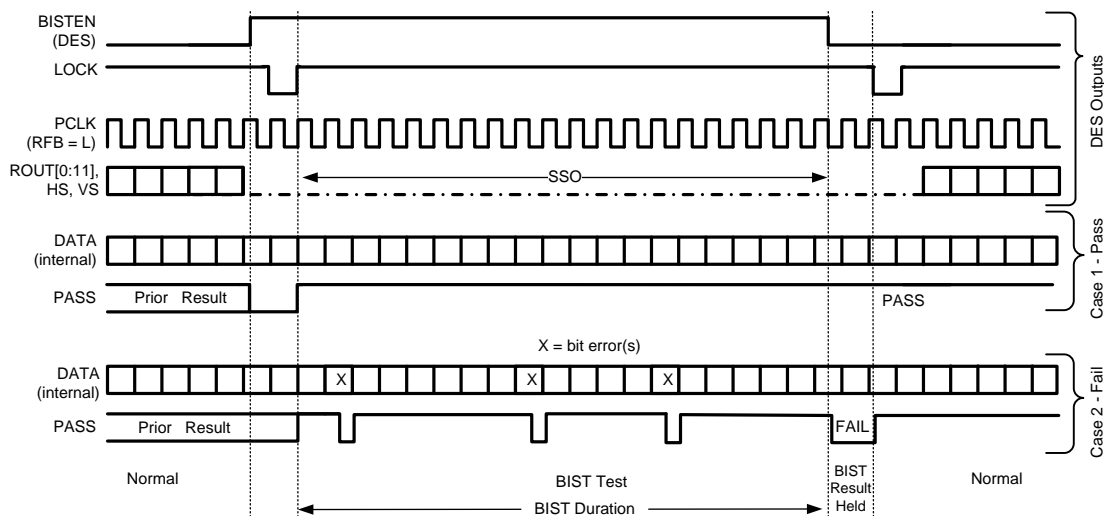

Figure 44. BIST Timing Diagram
Step 4. The link returns to normal operation after the deserializer BISTEN pin is low. Figure 44 shows the waveform diagram of a typical BIST test for two cases. Case 1 is error free, and Case 2 shows one with multiple errors. In most cases, it is difficult to generate errors due to the robustness of the link (differential data transmission, and so forth), thus they may be introduced by greatly extending the cable length, faulting the interconnect, or by reducing signal condition enhancements (RX equalization).